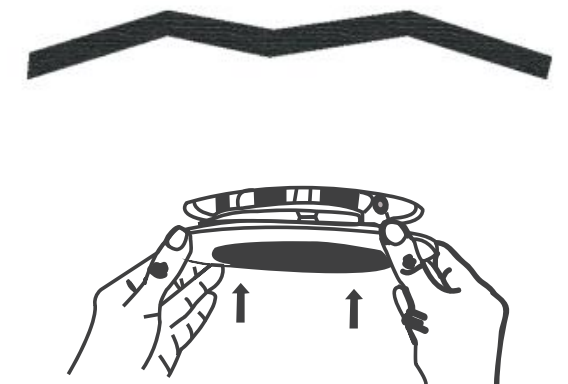

Figure 4
- STEP6:** Tuck all wires into the housing and carefully push the LED trim until its outer edge is flush against the ceiling surface. (Figure 4)